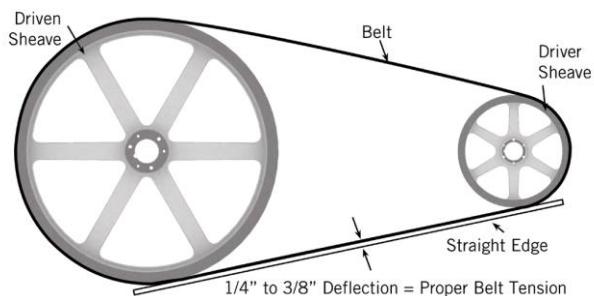
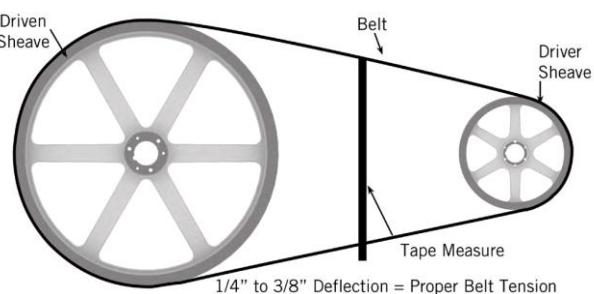

Figure 2. Belt Tension with a Straight Edge
Figure 3. Belt Tension with a Tape Measure
- a. Place a straight edge along the belt from sheave to sheave as shown in Figure 2 or use a tape measure as shown in Figure 3, to measure belt deflection.
- c. There is adequate belt tension if the belt deflects between $1/4"$ and $3/8"$ as shown in Figure 2 and Figure 3.